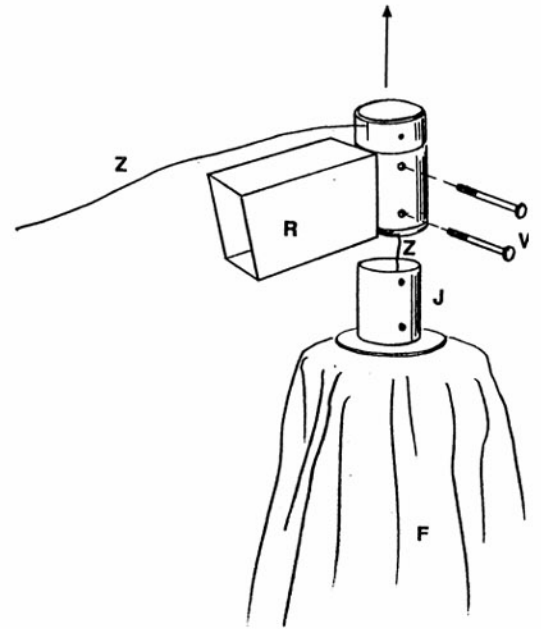

Fig. 6b
3. (fig. 6b) remove the screws (V') from the umbrella attachment (R).
4. remove the umbrella attachment (R) from the umbrella pole (J).
5. remove the rope (Z) from the umbrella pole (J) and from the umbrella attachment (R); in this way you can remove the winch (G) from the umbrella (fig. 6b).
6. remove the cover from the umbrella pole (J).